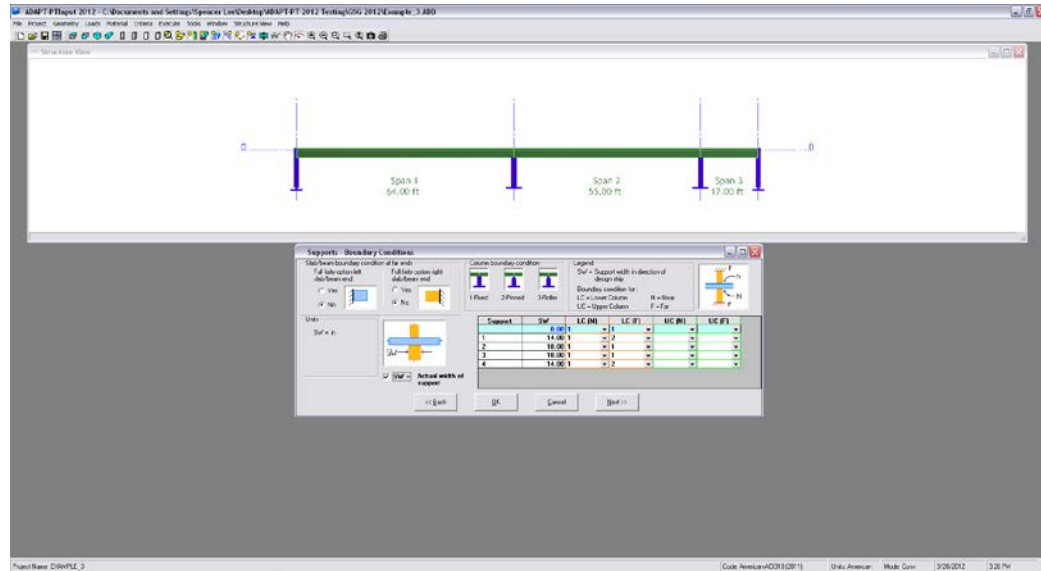

FIGURE 4.2-7
4.2.2.4 Enter Supports Boundary Conditions (Fig. 4.2-7)